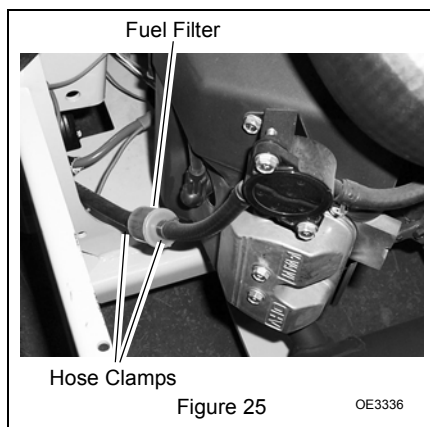

Figure 25
4. Disconnect the hose clamps (1) from the fuel filter (see figure 25).
5. Slide the fuel line off of both ends of the fuel filter (2).
6. Install the new fuel filter paying close attention to the flow direction (3) noted on the fuel filter.